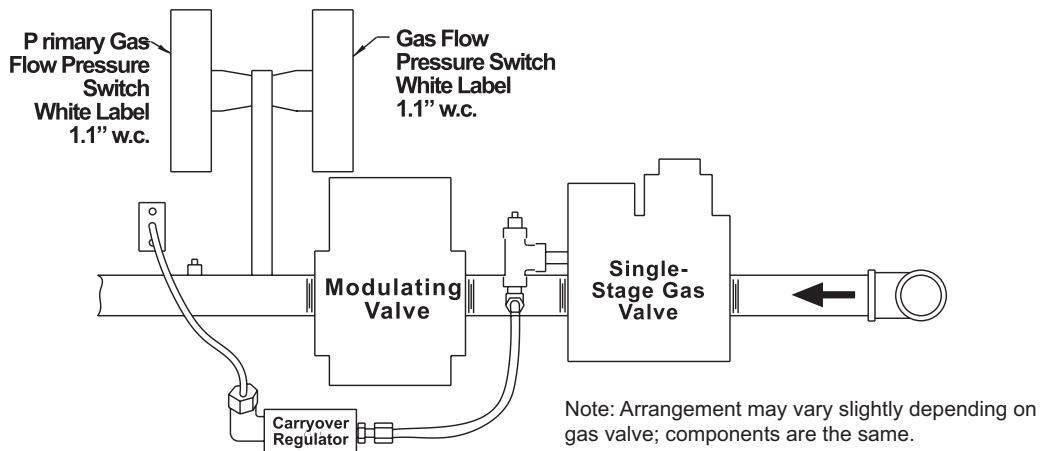

Figure 39. Typical Manifold Arrangement with Electronic Modulation
- The gas train (see Figure 39) includes a single-stage gas valve, a modulating valve, and two gas pressure switches. The burner rack is equipped with one flash carryover and a regulated gas lighter tube system. The carryover lighter tube receives its gas supply through the regulator simultaneously with the gas to the burner. Control of the system is through a Maxitrol amplifier (see Figure 38) with a corresponding remote temperature dial.